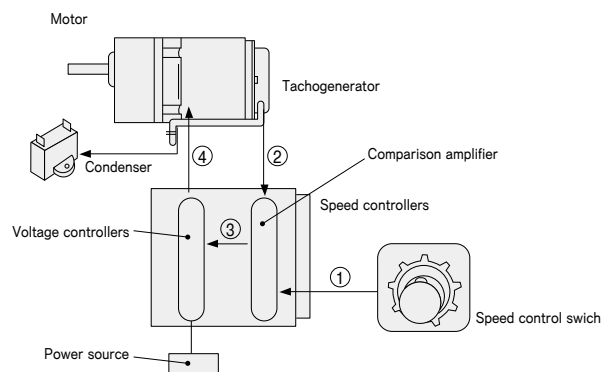

Fig2. Principle of speed controllers
Speed control motors are comprised of the closed loop shown in Fig2. Voltage ① set by the speed control switch is compared to voltage ② detected by the tachogenerator, and the power voltage ③ is controlled (primary voltage control) to eliminate the voltage difference, maintaining the motor speed ④ at the set value.